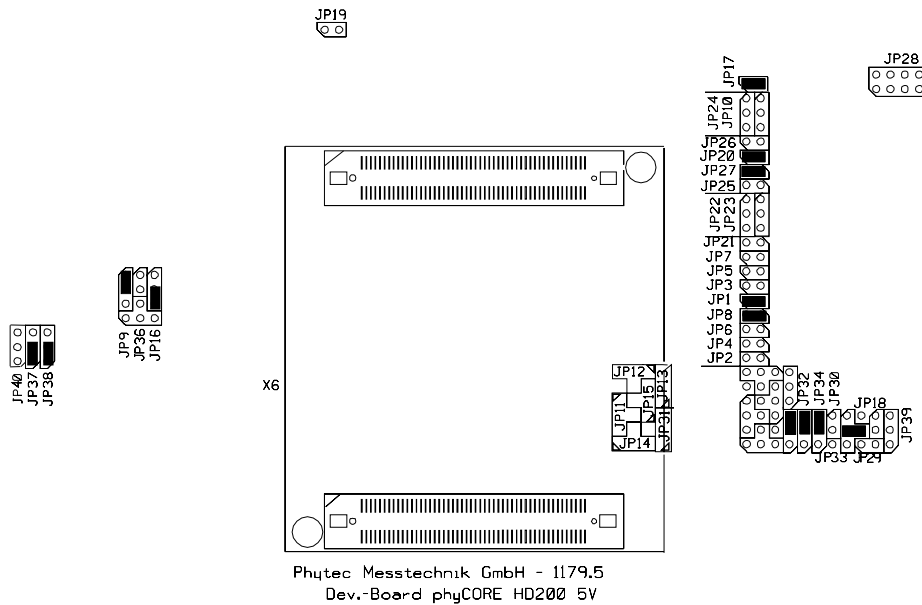

Figure 1: Default Jumper Settings of the phyCORE Development Board HD200 with phyCORE-AT91M55800A
- Ensure proper jumper settings on the phyCORE Development Board as shown in *Figure 1*.